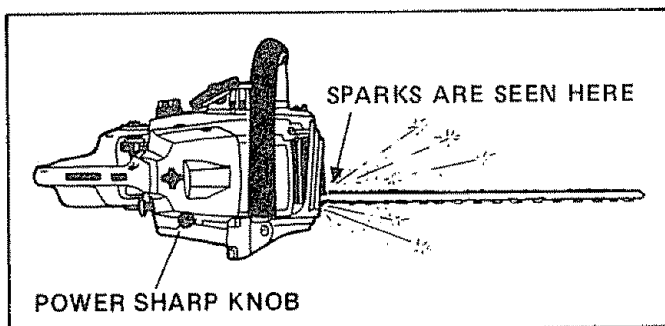

Figure 19
5. Push the Power Sharp Knob down slowly until fully pressed down. Figure 19.
6. Turn knob slowly clockwise until sparks can be seen as shown in Figure 19